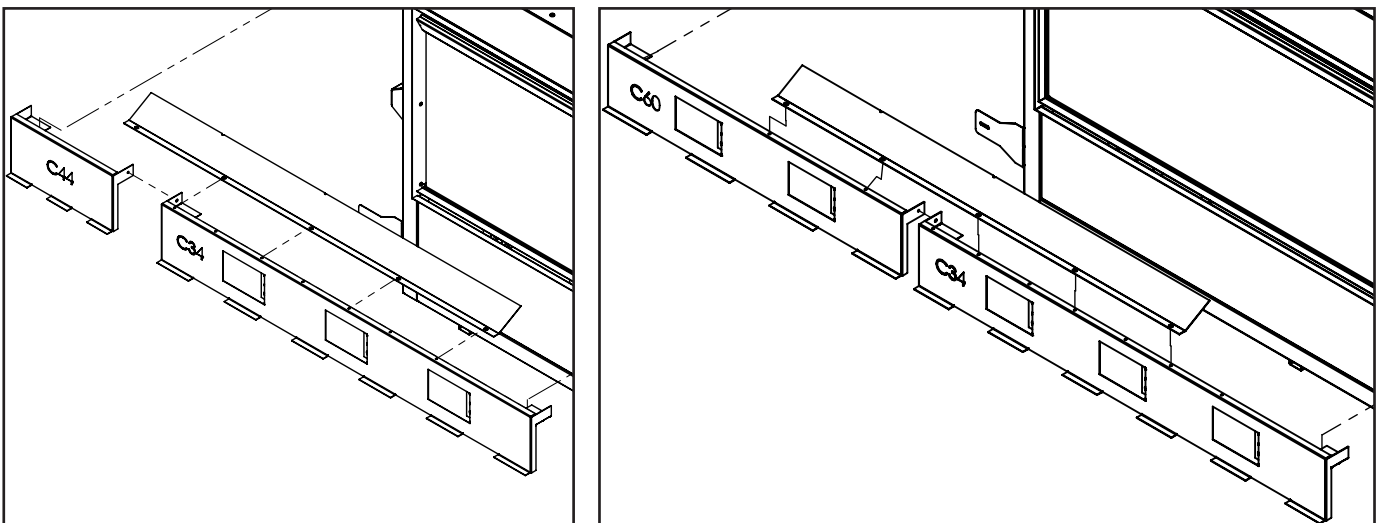
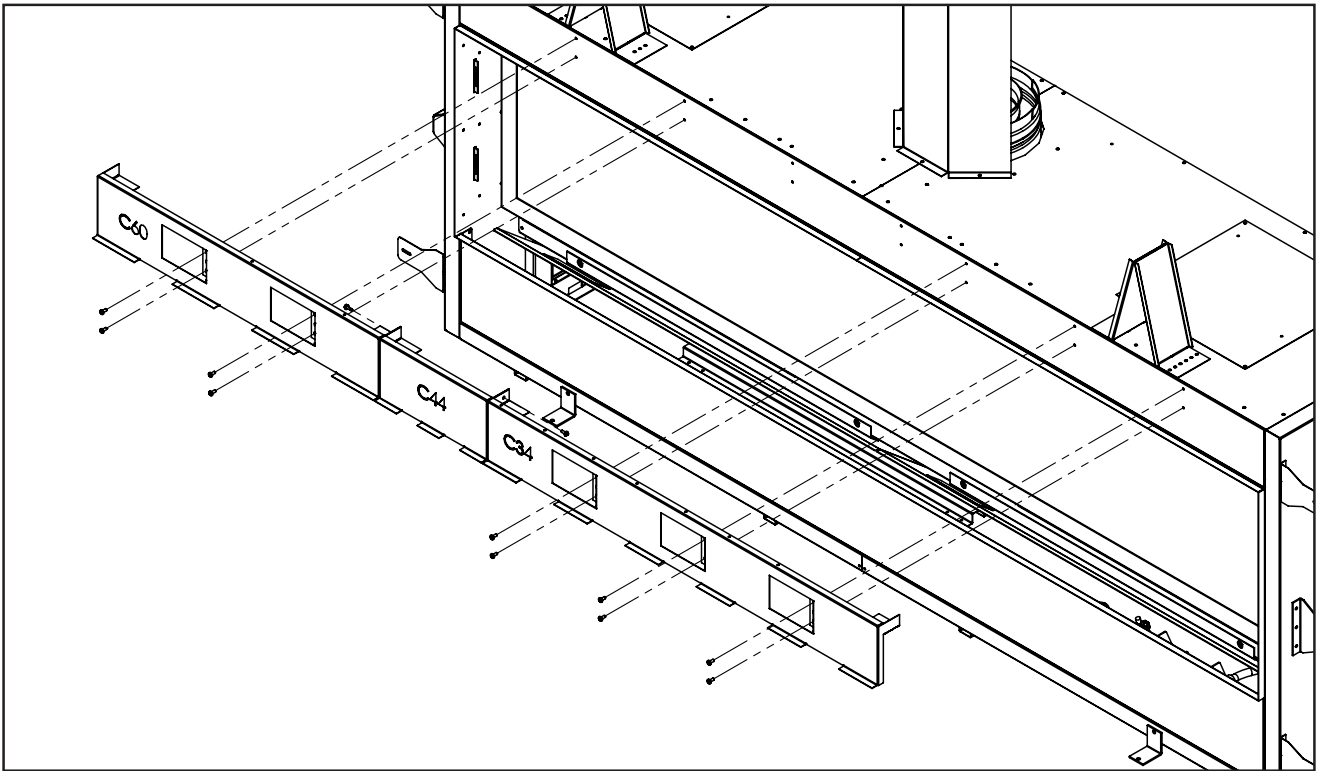

Figure 27. Combustible Panels C44 Left, C60 Right
Figure 28. Combustible Panel C72
Step 5: If installing a C44 or C60, attach your extension piece to the C34 main panel (Figure 27). If installing a C72, attach all extension pieces together main panel. (Figure 28)